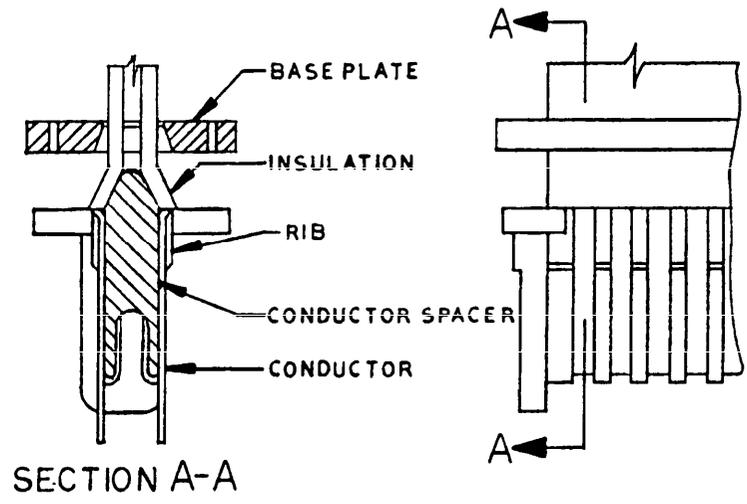

FIGURE 2. Cable insertion.
- A. Thread the uninsulated conductors (both cables) through the untapered side of central opening of base plate. Move base plate back on cables far enough to give liberty in working with each cable. See Figure 2 (Cable Insertion).
- B. Position conductors of cables into slots of conductor spacer with forward edge of insulation seated against ends of ribs on the conductor spacer. See Figure 2 (Cable Insertion).